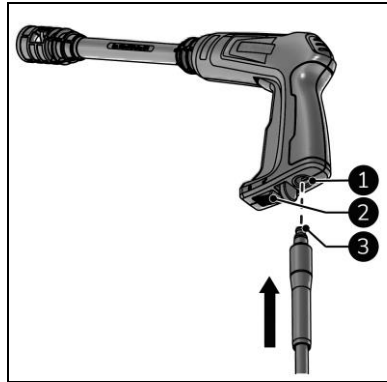

Figure 10
1. Make sure that the safety lock under the trigger is locked (Figure 10, pos. 2).
2. Connect the high-pressure hose (Figure 10, pos. 3) to the jet gun (Figure 10, pos. 1).